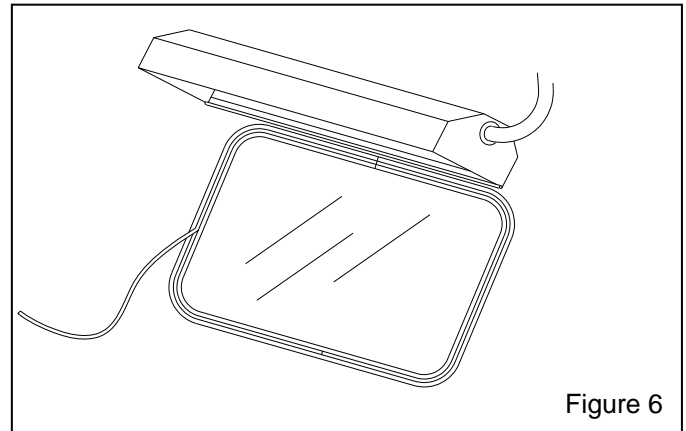

Figure 6
6.3.1. Swing the light-shield up and tie it in place, as shown in Figure 6.
6.3.2. Remove the filler strip by pulling it out of the window molding, as shown if Figure 6.